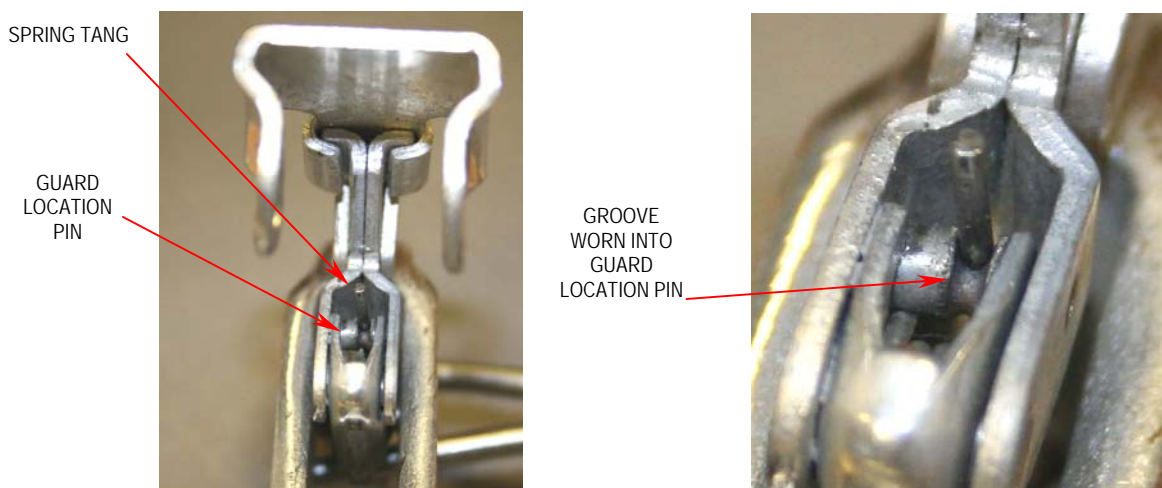

Fig 1 Wear on Guard Location Pin
(1) Airborne Systems Limited have received a report that a fault has been discovered on a Parachute Assembly Type EB 85 where the tang of the Torsion Spring has abraded a groove into the Guard Location Pin.
(2) As a result of the above, Airborne Systems Limited require all customers of the subject Ejector Snaphooks fitted in the Parachute Assemblies listed above to carry out the following examination on all equipment fitted with the subject Ejector Snaphooks **PRIOR TO NEXT USE**:
- (a) Refer to Fig 1, open the Ejector Snaphook and visually inspect the Guard Location Pin for wear. This wear is visible in the form of a groove worn into the Pin. If the remaining material of the Pin is 50% or less than the original diameter of the Pin, the Ejector Snaphook is to be removed from Service-Use immediately. Guard Location Pins where there is no sign of wear or where the remaining material is greater than 50% of the original diameter of the pin, may continue in use subject to an After Last Flight Daily examination. The Snaphook is to be checked for distortion or bending of the pin. Restriction of movement of the Spring Tang renders the Ejector Snaphook unserviceable and is to be removed from Service Use immediately.